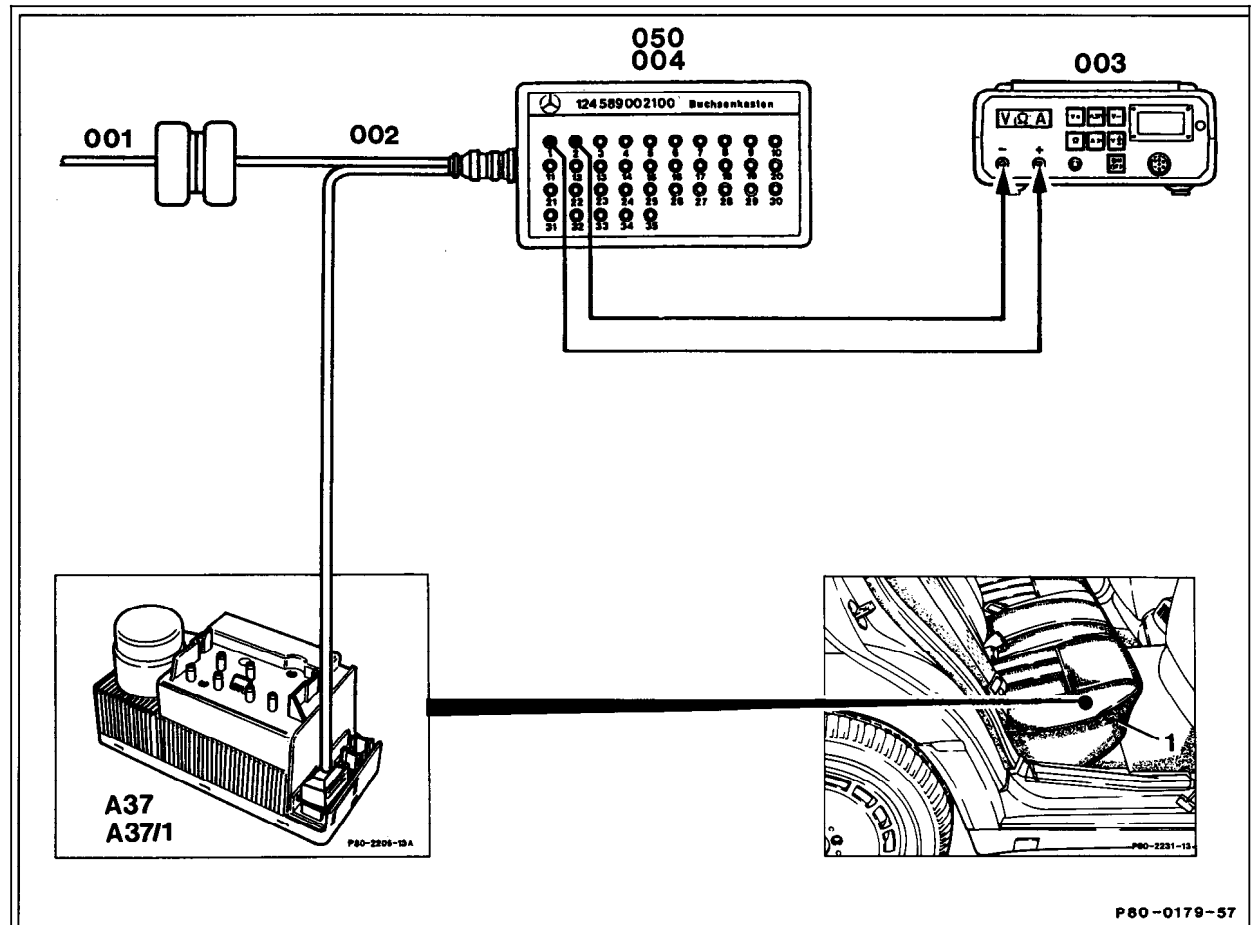

Figure 1
3. Disconnect convenience feature (CF) control module (N57), anti-theft alarm (ATA) control module (N26), infrared remote central locking (IRCL) control module (N54).
4. Connect socket box with test cable according to connection diagram, see 22 Figure 1.